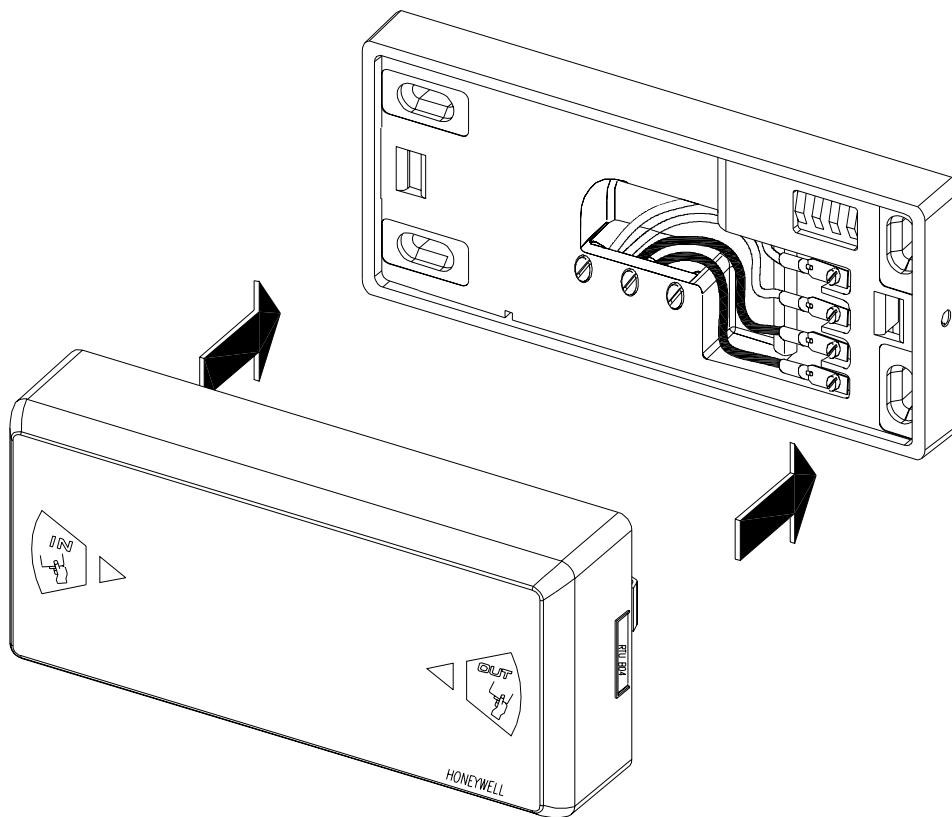

Figure 11: Attaching the module to the wall-mount frame
2. Attach each RTU module to the wall-mount frame as illustrated in Figure 11.